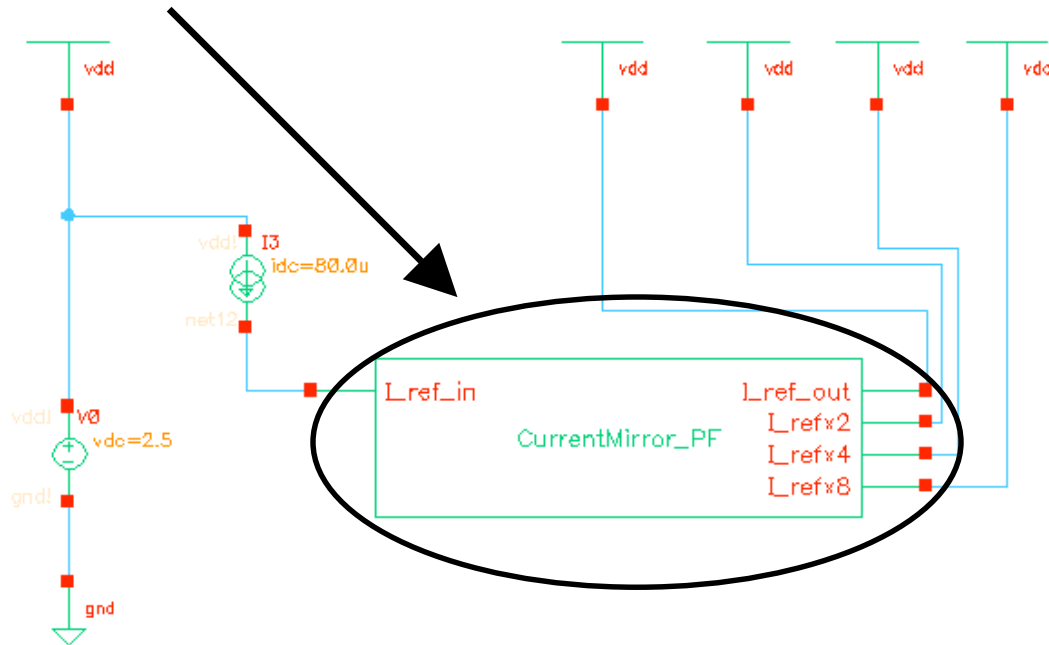

Figure 119: Replacing the CurrentMirror in the test bench with CurrentMirror_PF.
18. Open the *CurrentMirror_TB* schematic. Replace the part *CurrentMirror* with **CurrentMirror_PF** as in Figure 119.